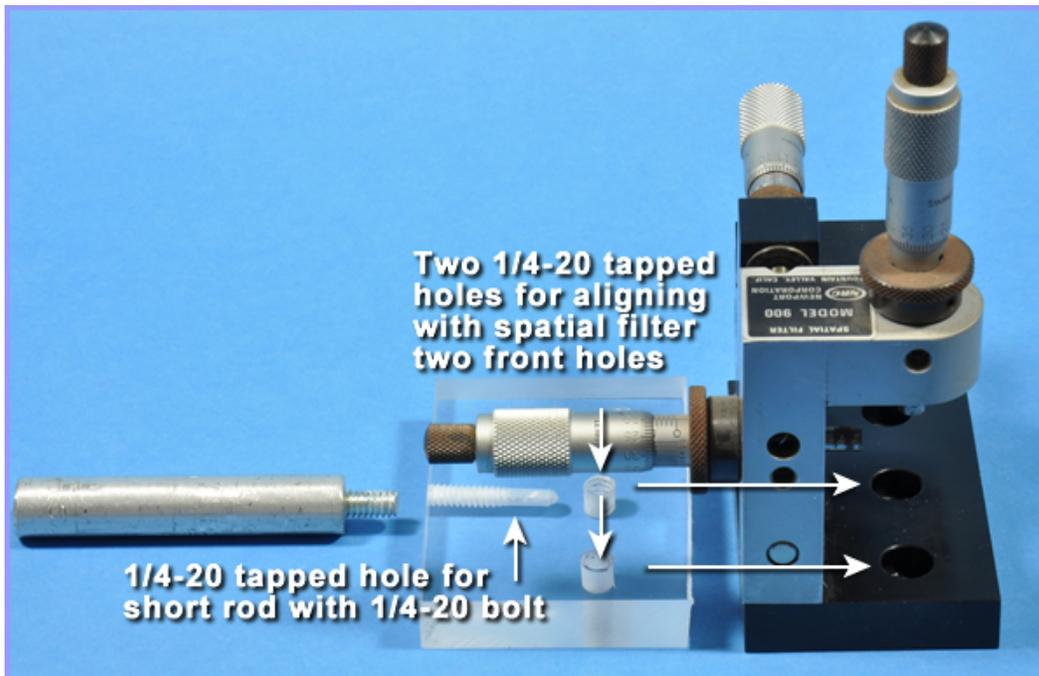

Figure 13a: Mount for the spatial filter.
If you plan to use a spatial filter, you will need to mount the base of the spatial filter to a 3 inch x 2 inch x 1/2 inch thick (7.62 cm x 5 cm x 1.27 cm thick) piece of Plexiglas as shown in Figure 13a. Once you've cut your Plexiglas mount, lay the spatial filter's base on top of it. The spatial filter base has three holes drilled in it to accommodate 1/4-20 bolts, but you will just be using the front two holes.
- Referring to Figure 13a again, hold the spatial filter base firmly down on the Plexiglas mount, stick a pencil, pen, or marker into the two front holes and place marks on the Plexiglas mount for drilling holes and tapping.